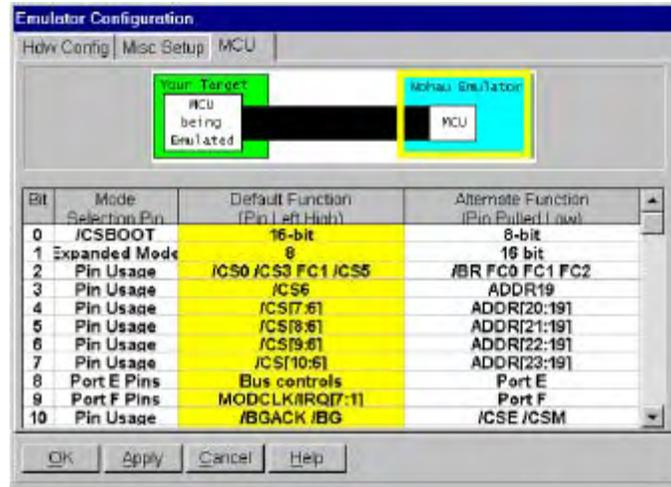

Figure 78. Emulator MCU Configuration
7. Click the **MCU** tab at the top of the dialog box. The **MCU** dialog box will appear. (Figure 78).
8. Click the **MCU** tab at the top of the dialog box (Figure 78).